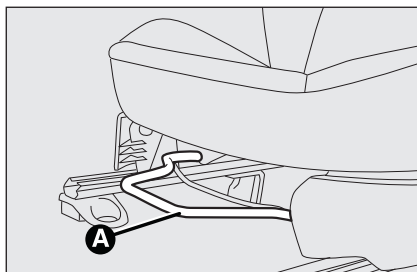

fig. 13
### Horizontal adjustment fig. 13
ATTENTION Using lever **D** before locking the seat in its original position causes the original seat position to be lost. In this case, adjust the seat position by means of the reach adjustment fig. 13.
To return the seat to its initial position, slide the seat back and press on the backrest (movement ④) operate lever **D** (movement ⑤) and raise the backrest (movement ⑥) until it clicks home. Adjust reach using lever **A**-fig. 13.